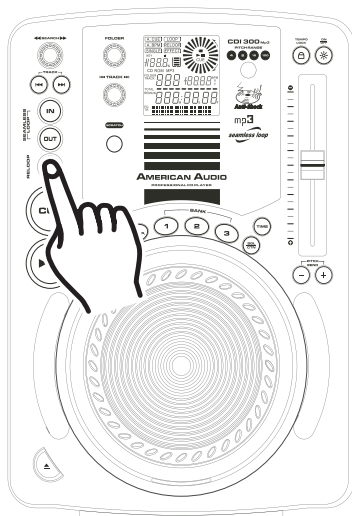

Figure 22
Please note: Only the ending point of the loop may be edited. You may make your loop shorter or longer. Before you can edit your seamless loop you obviously must first create a seamless loop to edit. If you haven't created a SEAMLESS LOOP, follow the instructions in step 10 to create a loop. If a SEAMLESS LOOP has already been created, press the *RELOOP BUTTON* (19) to activate your SEAMLESS LOOP (Figure 22) if it is not already activated. To edit your seamless loop's ending point: